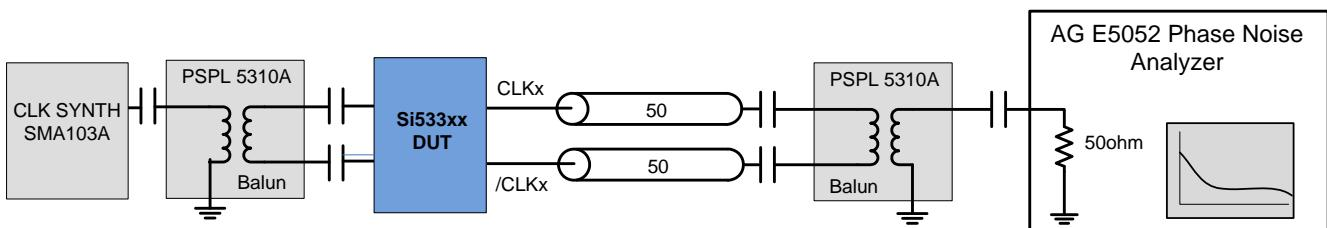

Figure 1. Differential Measurement Method Using a Balun
- 3. Measured differentially using a balun at the phase noise analyzer input. See Figure 1.
- Measured differentially using a balun at the phase noise analyzer input (see Figure 1). LVC MOS jitter is measured single-ended.